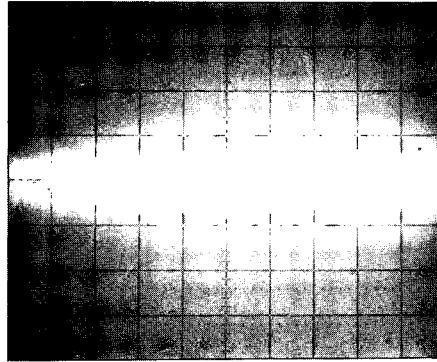

Figure 5-4. Waveform at A12Q11 Source.
- g. Adjust potentiometer A12R1 until dc level of displayed waveform is 0mV $\pm 10mV$. Refer to Figure 5-4 which shows well-adjusted waveform.